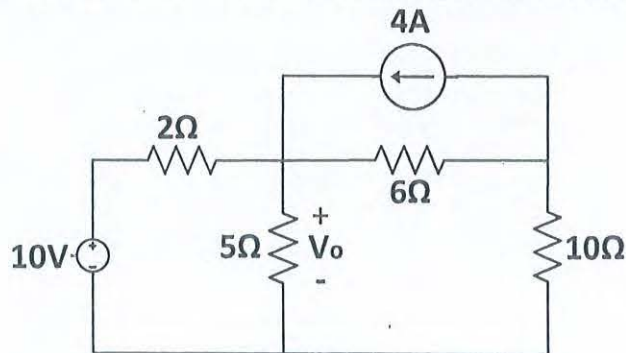

Figure 3
2. Compute V_o for the circuit shown in Figure 3, using Nodal or Mesh analysis.